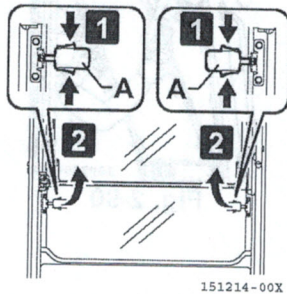

Fig. 2-91
1. To open the lower windshield, pull the right and left window lock levers (Fig. 2-91, A) inward to release the lock.